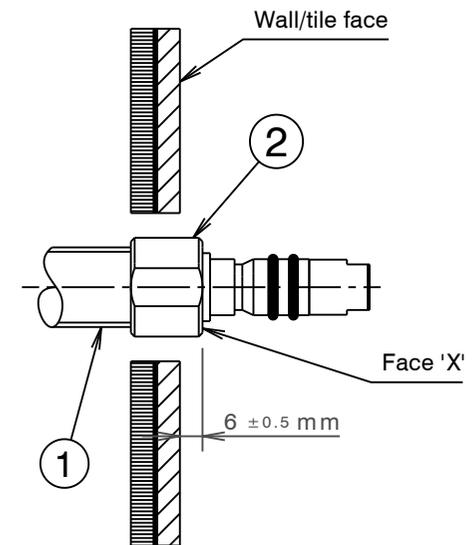

Fig. 2
- 2) Screw adaptor (2) onto threaded nipple (1) until face 'X' of adaptor (2) is  $6 \pm 0.5$ mm from the finished wall/tile face (Fig.2). For bath applications where the flow regulator (3) is not required, refer to 'Servicing the Flow Regulator' before continuing. Apply suitable lubricant to 'O' Rings on adaptor (2).
- 3) Fit outlet (5) together with seal (8) onto spigot of adaptor (2) and position the outlet against the wall/tile face, taking care not to damage the decorative finish. Tighten screws (9) using 2.0mm allen key (10) until the outlet (5) is held firmly against the wall/tile face.